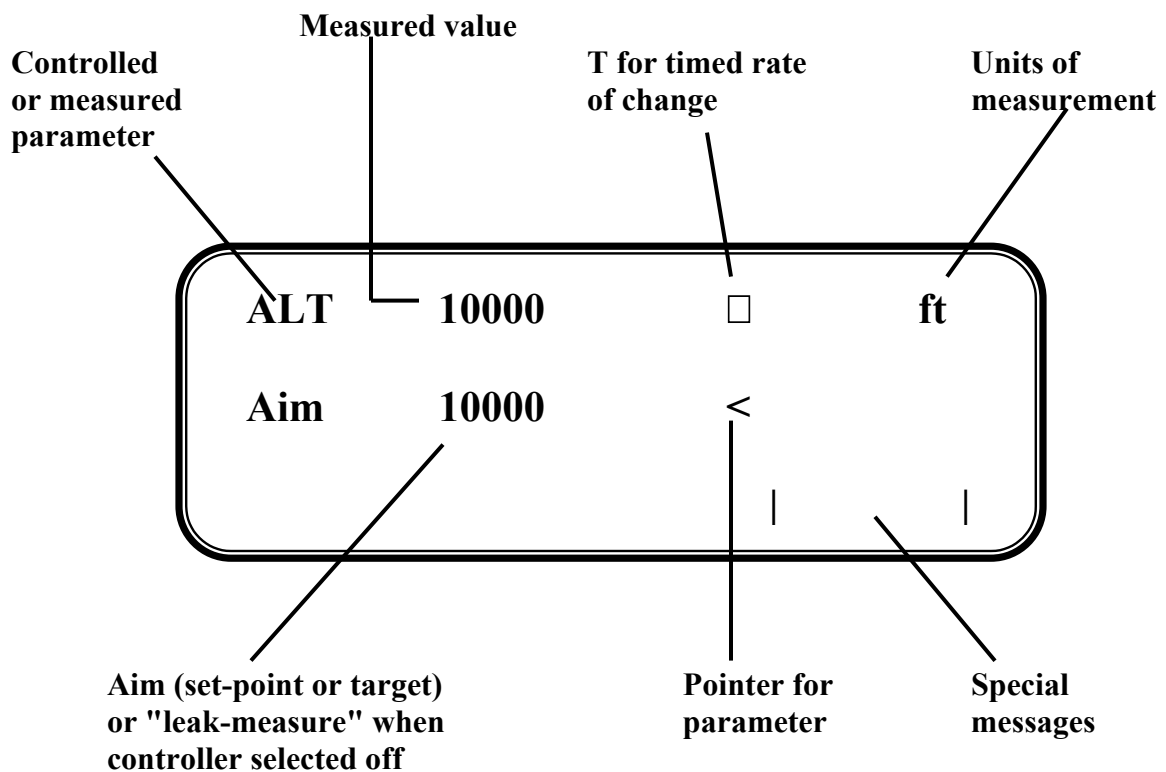
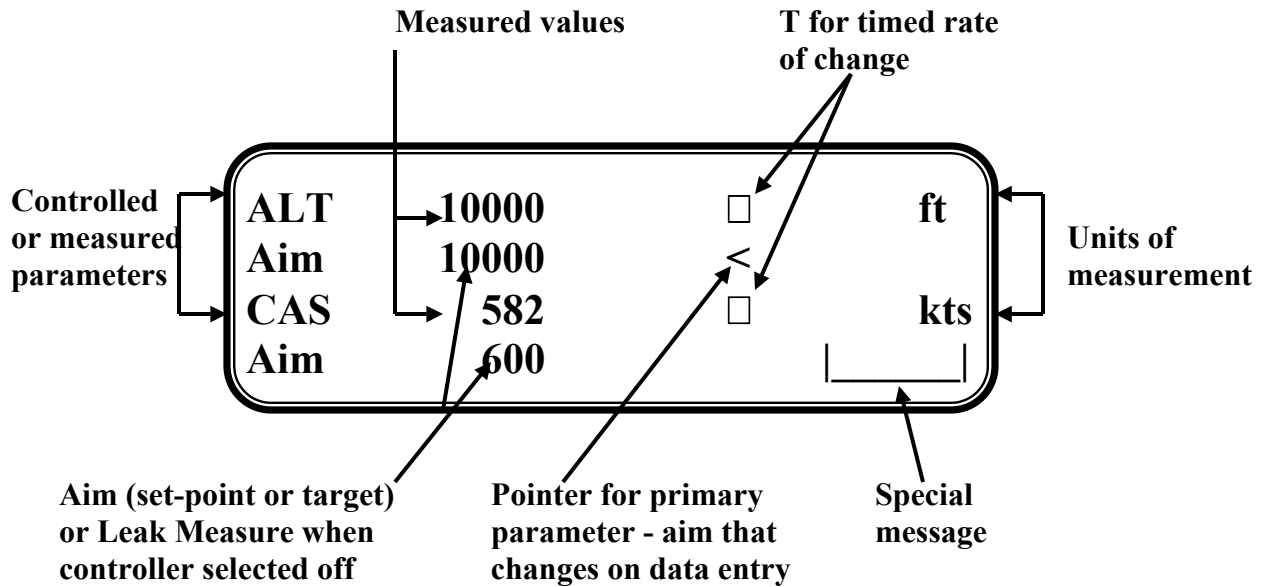
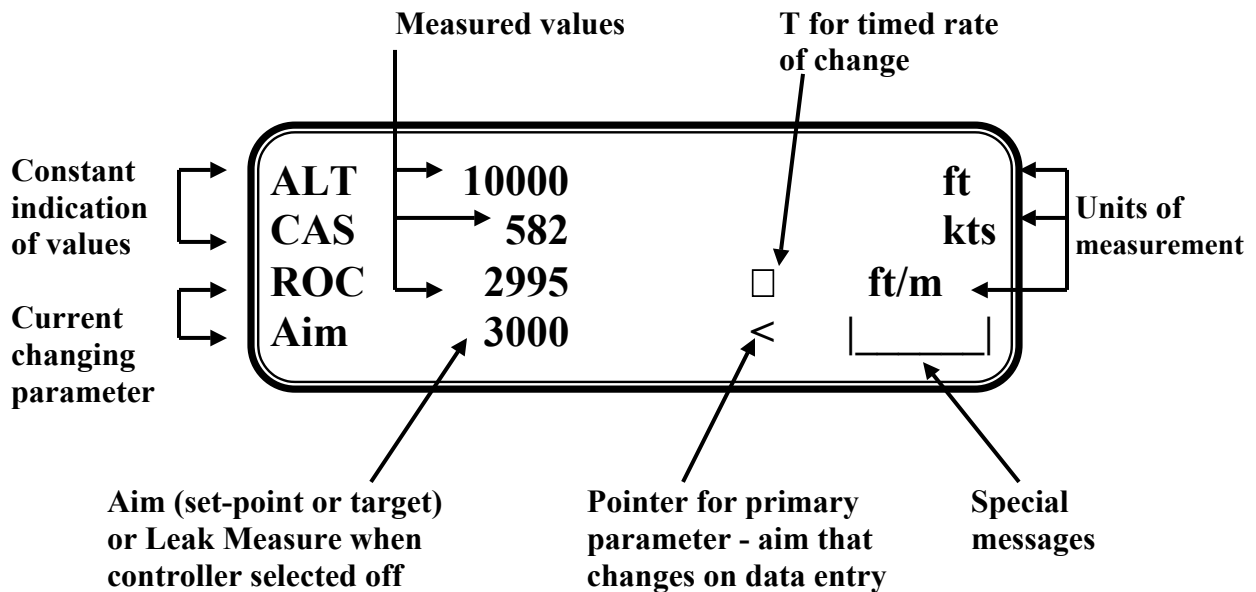

FIGURE 3-1 SINGLE DISPLAY
FIGURE 3-2 DUAL DISPLAY
FIGURE 3-3 TRIPLE DISPLAY
3.5 DISPLAYS (Fig 3.1, Fig 3.2 and Fig 3.3)